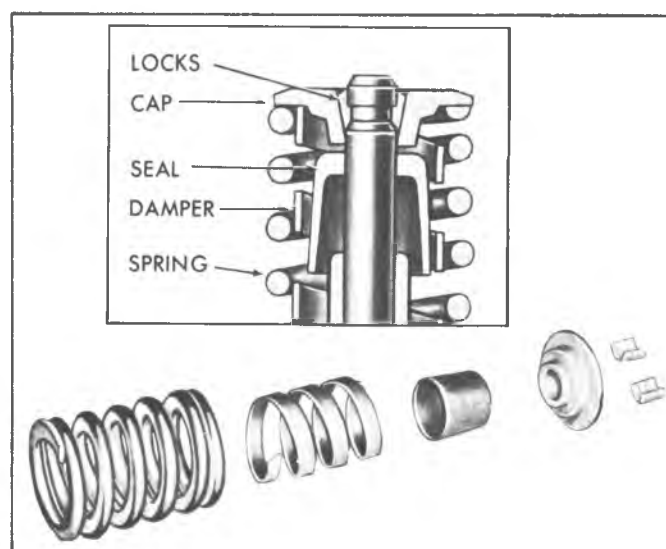

Fig. 26—Exhaust Valve Spring Installation ("Mark IV V8")
- b. Set the valve spring (with damper), and valve cap in place (fig. 26).